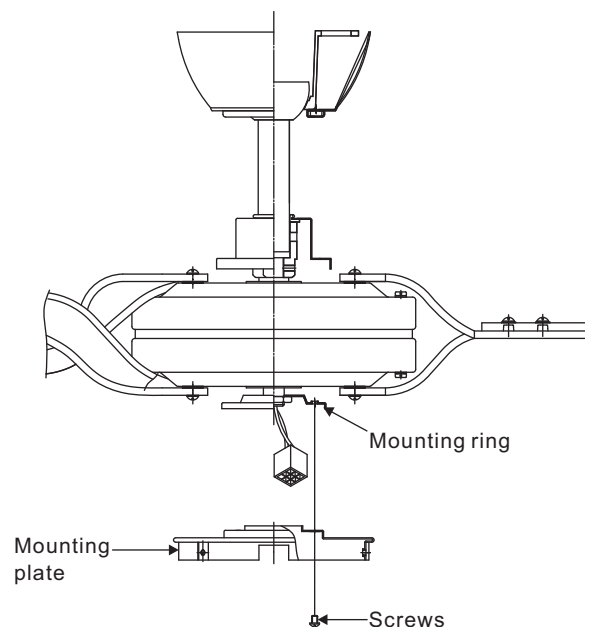

Figure 15
Step 2. Place the key holes on the mounting plate over the 2 screws previously loosened from the mounting ring, turn mounting plate until it locks in place at the narrow section of the key holes. Secure by tightening the 2 screws previously loosened and the one previously removed. (Figure 15)